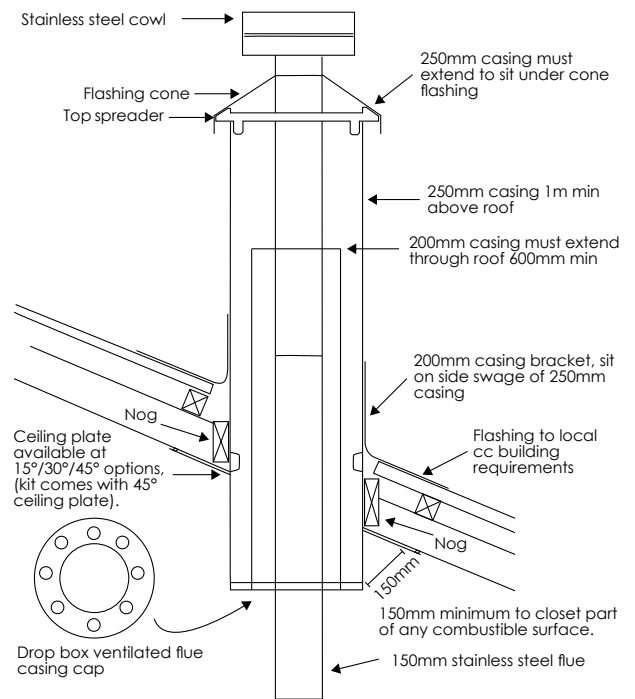

Fig 1.
5. Cut an opening through the roof and position outer casing through the roof penetration. Then fix at bottom, with 4 screws or clouts to the framing of the opening in the ceiling at the points where outer casing and timber meet. For sloping ceiling installations the outer casing liners must drop not less than 150mm into the room at the shortest side of the 250mm liner. Refer to Fig 1 overleaf.